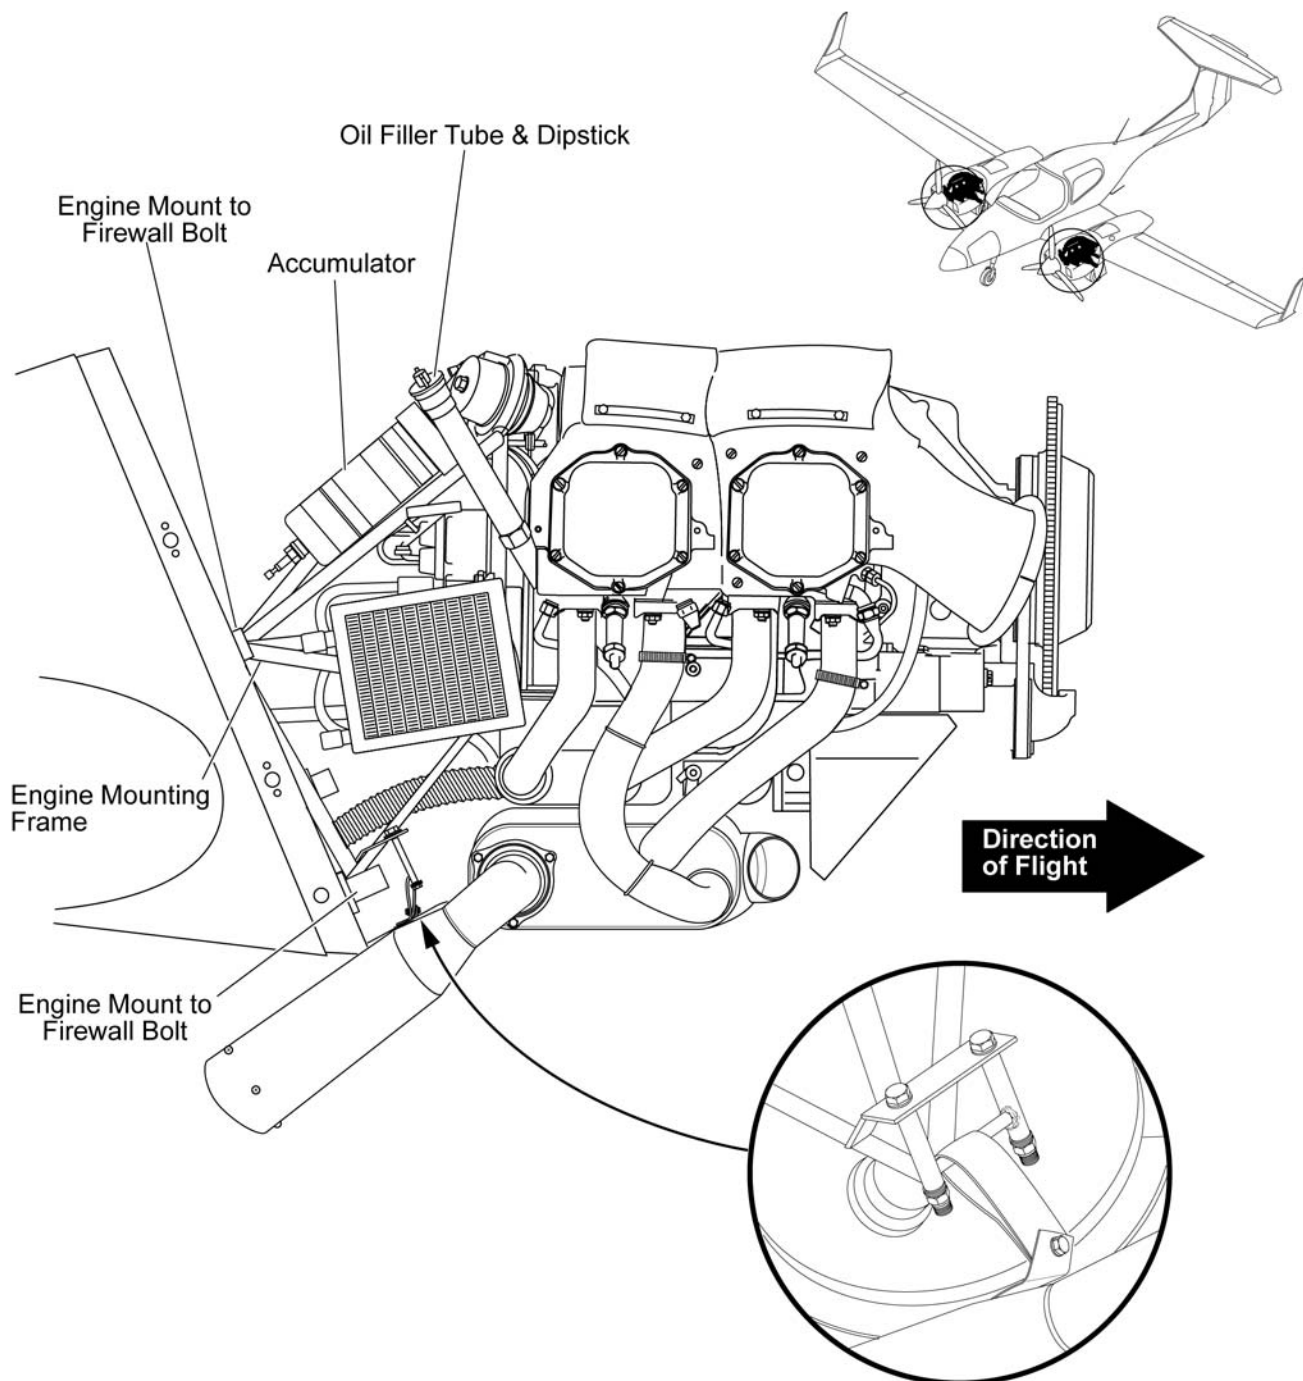

Figure 1 - DA42 L360 Engine
The oil filler is located on the right side of the engine. (Refer to Figure 1). You must open the oil filler door at the top engine cowling to have access to the oil filler. The oil filler has a dip-stick attached.
| No.                            | See Figure 1 and 2                                                           | 1                 | 2 | 3 | 4 | 5 | 6 | (Hours) see Notes (1), (2) |